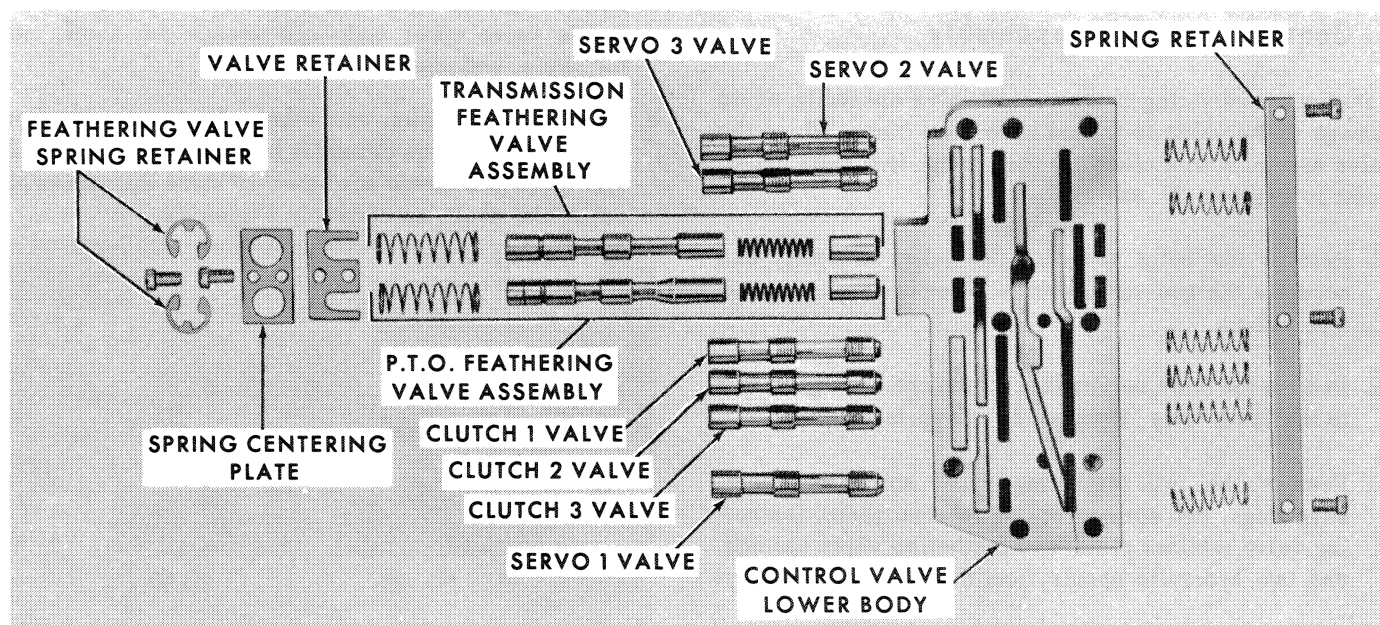

Figure 77
During the servicing of the control valve assembly, avoid damage to the valve parts, and keep them clean. Place the valve assembly on a clean chamois or lint-free shop towel. Refer to Figures 77 and 78.
1. Arrange all parts in their proper position, as shown in Figures 77 and 78.